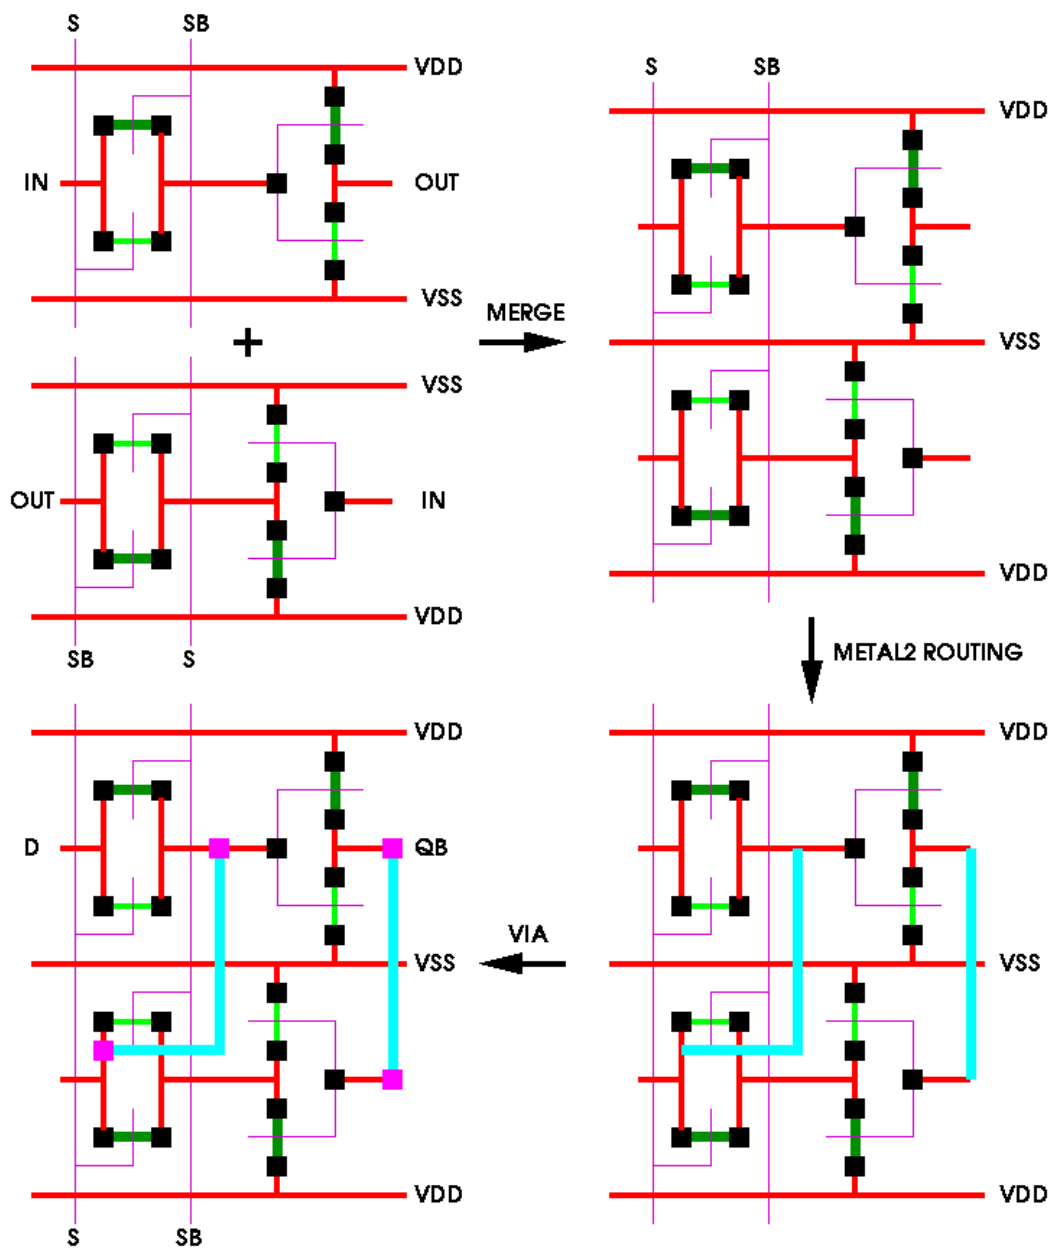

Fig.L2.3 Design steps for a negative polarity latch.
Next, merge the two halves of the latches to create a negative sensitive latch as shown in Fig.L2.3 (of course, you can layout all cells in a row instead of two rows). The polarity (QB) is not important in this latch because the flip-flop consists of two identical latches. In other words, the polarity is negative of negative, or simply positive. When merging the inverter and the transmission gates, use metal2 and via layers for routing easily (in order to avoid shorting wires) as shown by the step in Fig.L2.3. Note that the routing process only shows connectivity of cells in Fig.L2.4, thus you should compact your layout keeping minimum sizes and shortest paths.